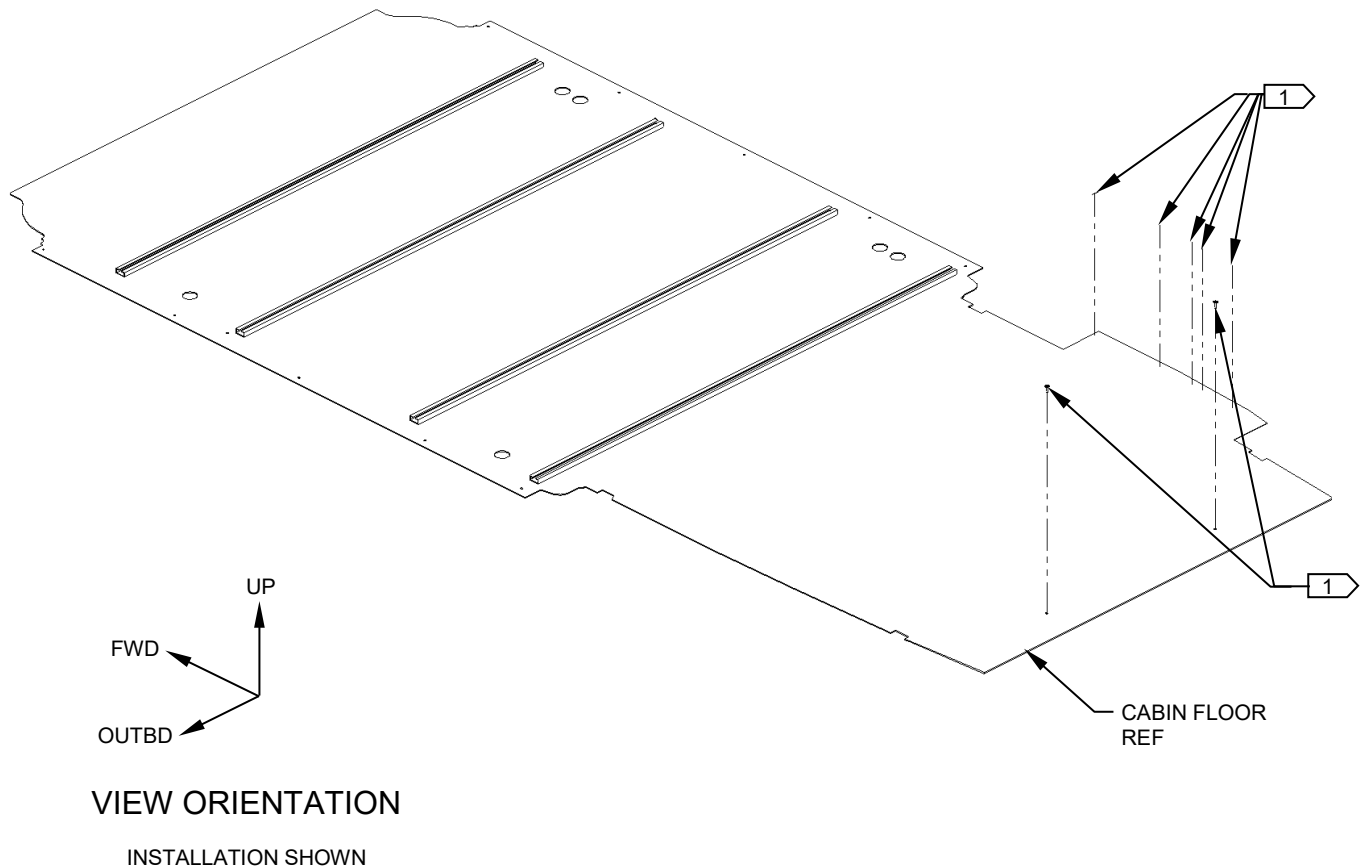

Figure 2
2. Remove and retain the two most OUTBD fasteners common to the access panels near the AFT end of the cargo area. Remove and retain fasteners along cargo door sill. Reference Figure 2.